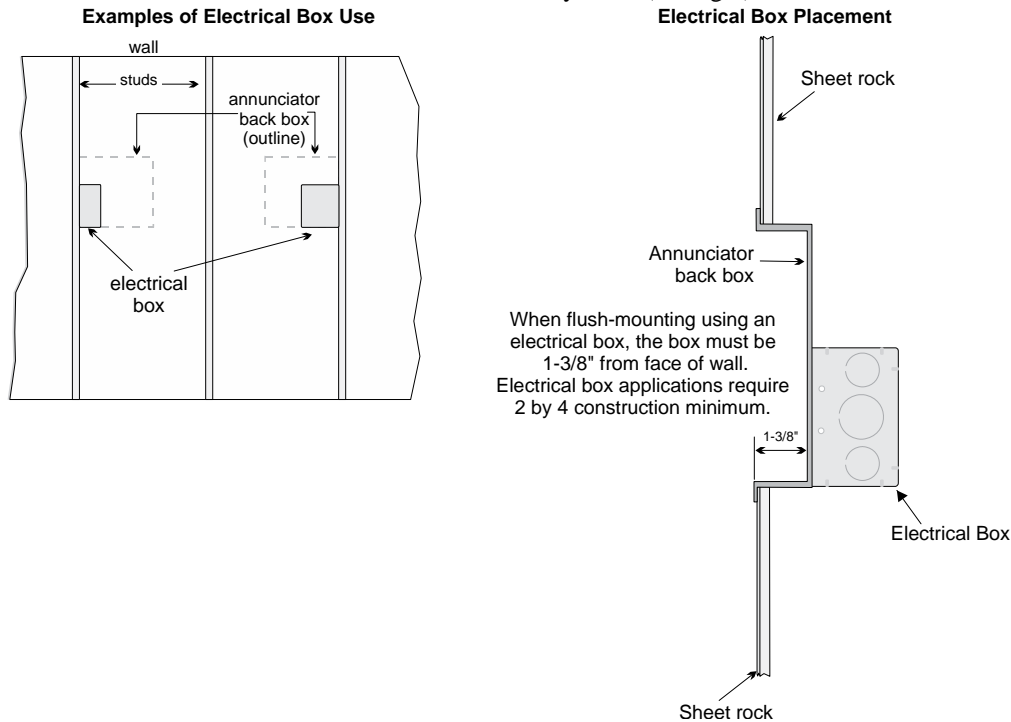

Figure 4-13 Placement of Electrical Box for Flush Mounting
1. Cut a hole in the sheet rock to the following dimensions: 8-1/4" W x 6-5/8" H. If an electrical box is used, the box must be 1-3/8" back from face of wall to accommodate the annunciator (see Figure 4-13).